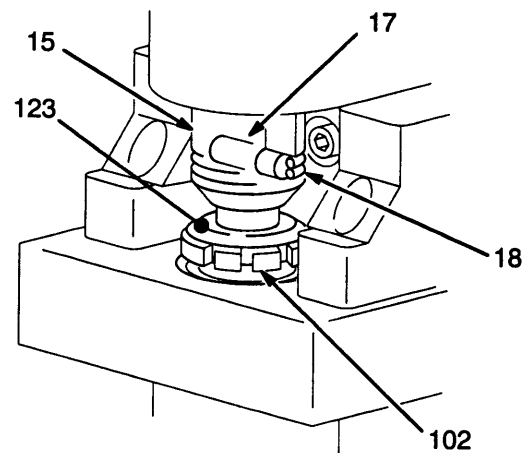

Fig 21-2
Be sure the retaining spring (18) is firmly in the groove all the way around, to prevent the pin (17) from working loose due to vibration. See Fig 21-2.